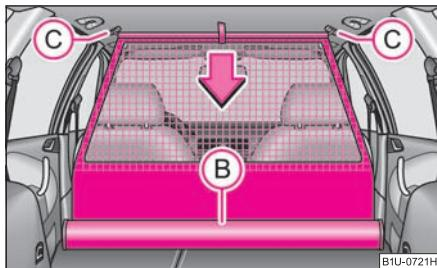

Fig. 78 Roll up net partition
- Pull the cross rod back slightly, first on the one side then on the other side and take the cross rod out of the mounts **(C)** ⇒ fig. 78.